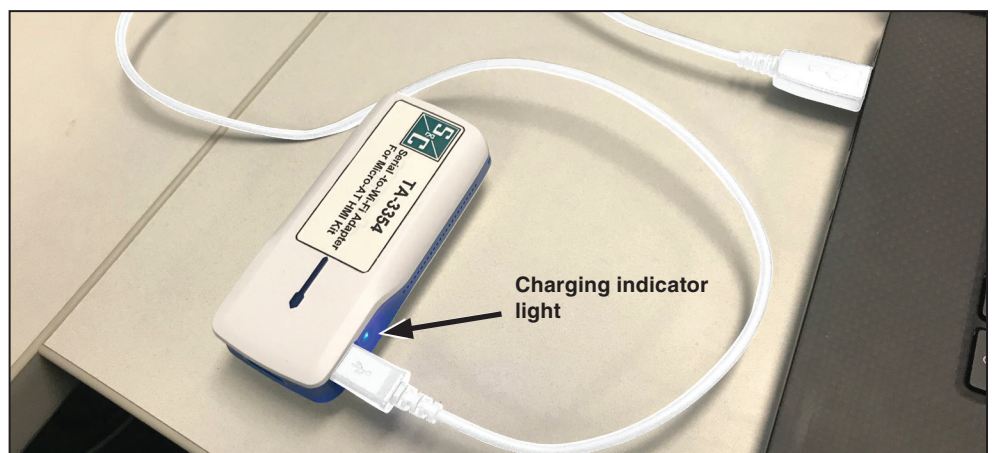

Figure 5. Charging the adapter.
STEP 2. Connect the supplied micro-USB charging cable to the PC's USB port and the micro-USB end of the cable to the micro-USB port on the Wi-Fi adapter. A blue light by the adapter micro-USB port will turn on, indicating the adapter is charging. Full charging takes about 45 minutes. See Figure 5.